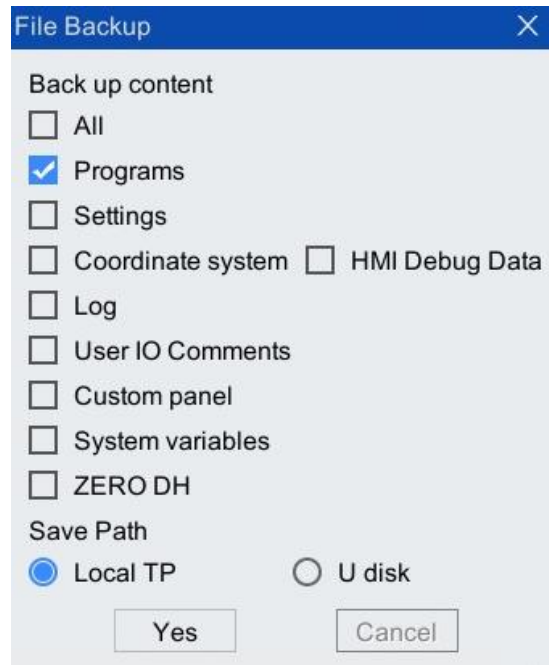

Figure 7-4 "File Backup" interface
Step1. On the main interface of the teach pendant, click "File > File Backup" to enter the "File Backup" interface as shown in Figure 7-4, and select the desired backup in the "Backup Content" check box Options, here take <program> as examples.